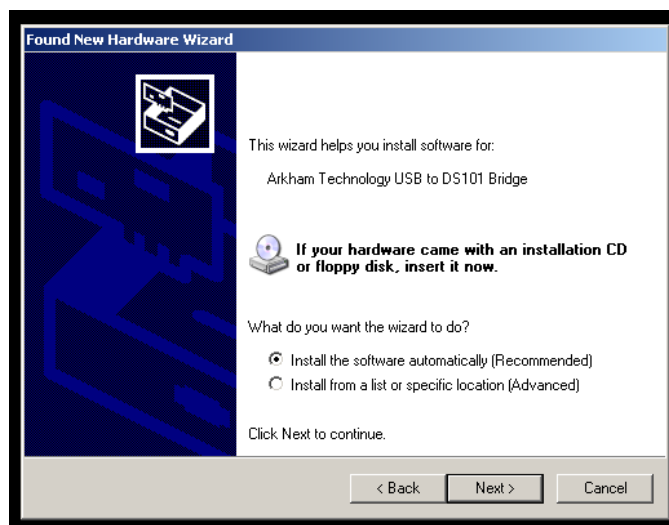

Figure 2-13: Found New Hardware Wizard (Page 2)
- 4) Select *Install the software automatically (Recommended)* from the *Found New Hardware Wizard* shown in Figure 2-13.